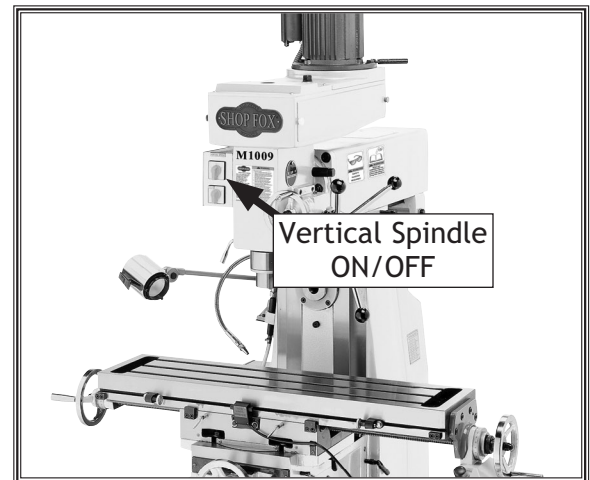

Figure 32. Vertical spindle control for Model M1008/M1009.
- **Figure 32** shows the location of the vertical spindle switch for both Model M1008/M1009.